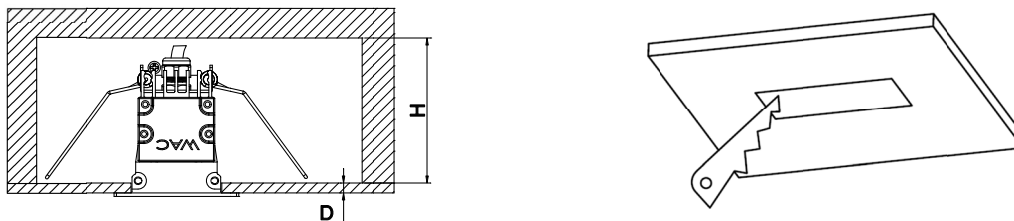

Figure 1
1. Select the corresponding ceiling opening size according to the specifications and models of the lighting fixtures, and pre open the installation holes for the lighting fixtures on the ceiling (as shown in Figure 1):